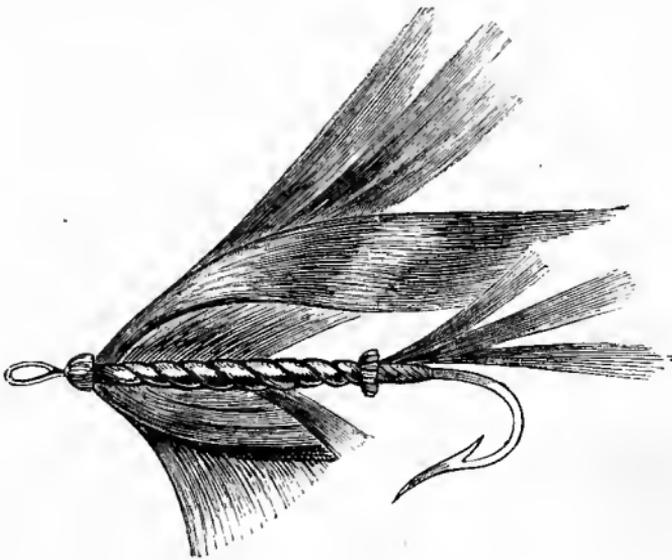

Fig. 253.—The Oranmore.
*The Oranmore.*—Another fly of esteemed efficiency is the Oranmore (Fig. 253), and I again acknowledge